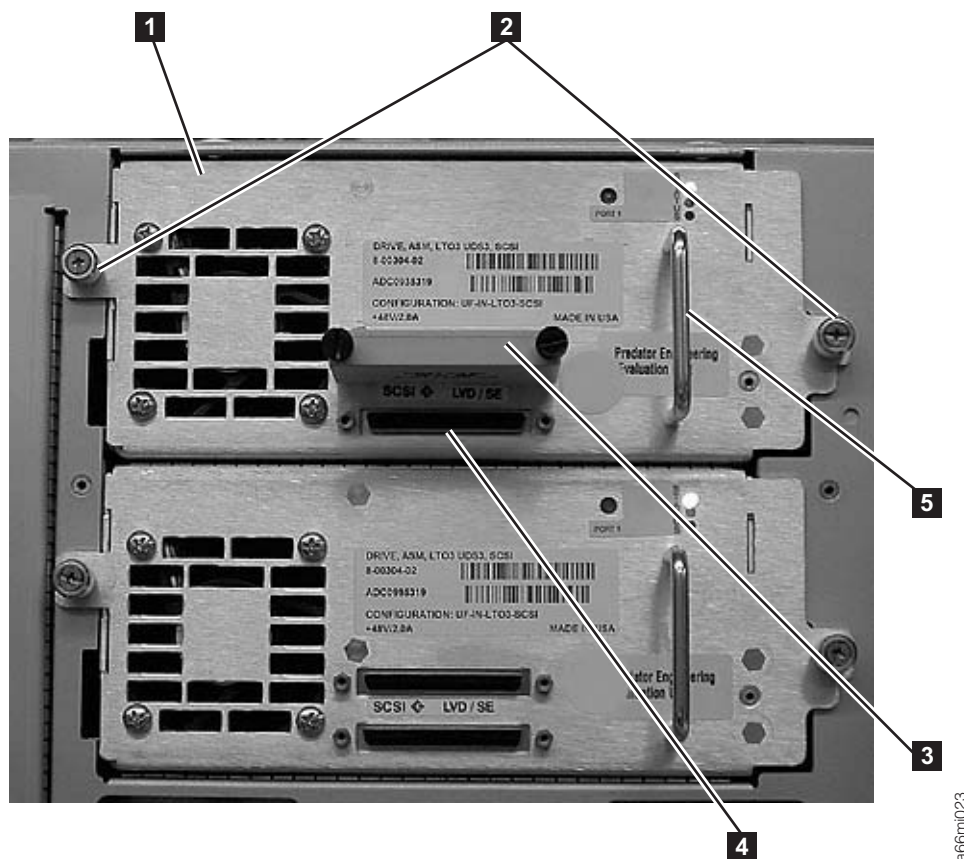
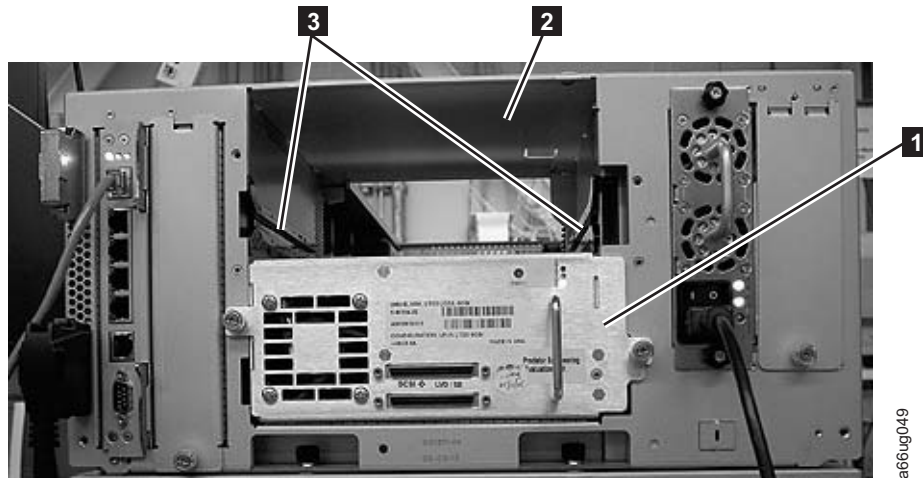

Figure 8-34. Drive sled (detail)
Figure 8-36. Drive sled slot
3. Loosen the two thumb screws (**2** in Figure 8-34 on page 8-35) that hold the drive in place by turning them counterclockwise.
4. Slide the drive out of the library module. Grasp the handle (**5** in Figure 8-34 on page 8-35) and slowly pull the drive toward you, while supporting the drive sled from underneath.
1. Align the drive sled with the guide rails and guide slots along the tracks (**3** in Figure 8-36 on page 8-37) in the open drive sled slot (**2** in Figure 8-36 on page 8-37). Grasp the handle (**5** in Figure 8-34 on page 8-35) and slowly slide the drive sled into the library, while supporting the drive sled from underneath.
2. Tighten the two thumb screws (**2** in Figure 8-34 on page 8-35) that hold the drive sled in place by turning them clockwise.
- a. For a SCSI drive sled, plug the cable and terminator into the drive sled. Tighten the thumb screws that hold the SCSI cable (**4** in Figure 8-34 on page 8-35 shows the SCSI receptacle) and terminator (**3** in Figure 8-34 on page 8-35) in place by turning them clockwise.